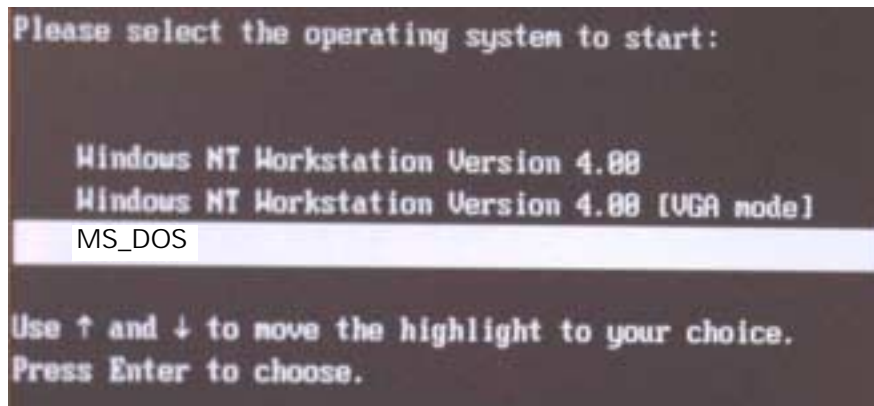

Figure 16-3 NT Boot loader window
2. Select *MS-DOS* (shown in Figure 16-3), using keyboard up/down arrows.